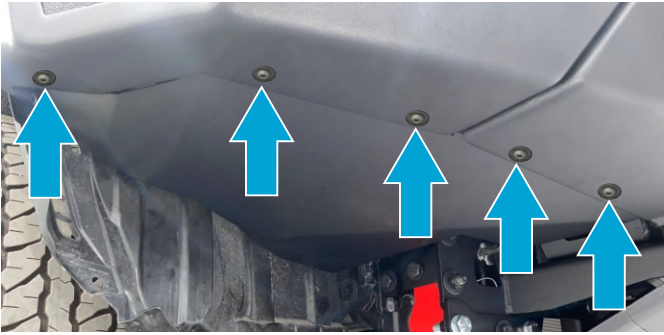

Fig.120
108. Install cage nuts M6 (item G) on flaps (items 4, 5) (fig.120).
109. Install flaps and secure them using screws M6x20, washers M6 (items B, I1) (fig.120) on both sides of the vehicle